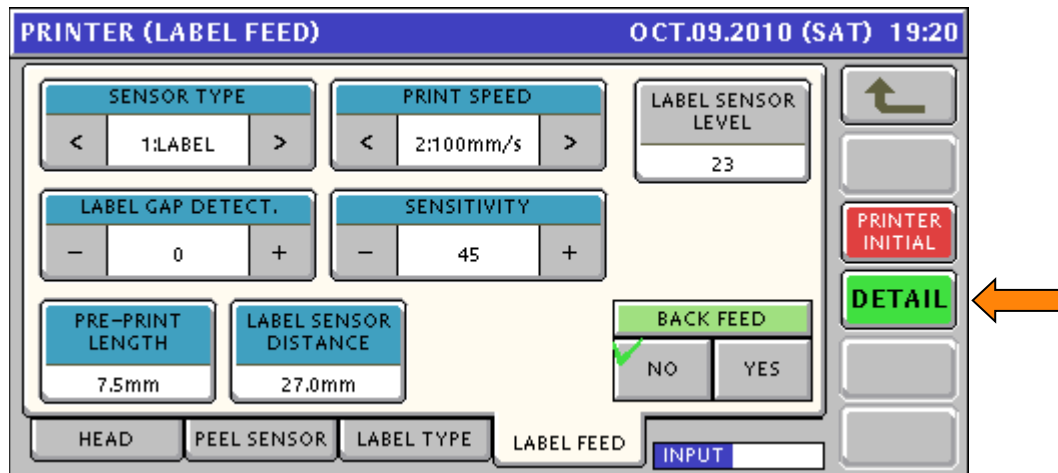

Figure 72. Printer – Label Feed Section Settings
- l. If the values are known enter them as needed. If not, check and adjust the Label Gap **SENSITIVITY**, **BACK FEED** and **LABEL SENSOR DISTANCE**. See Figure 72.